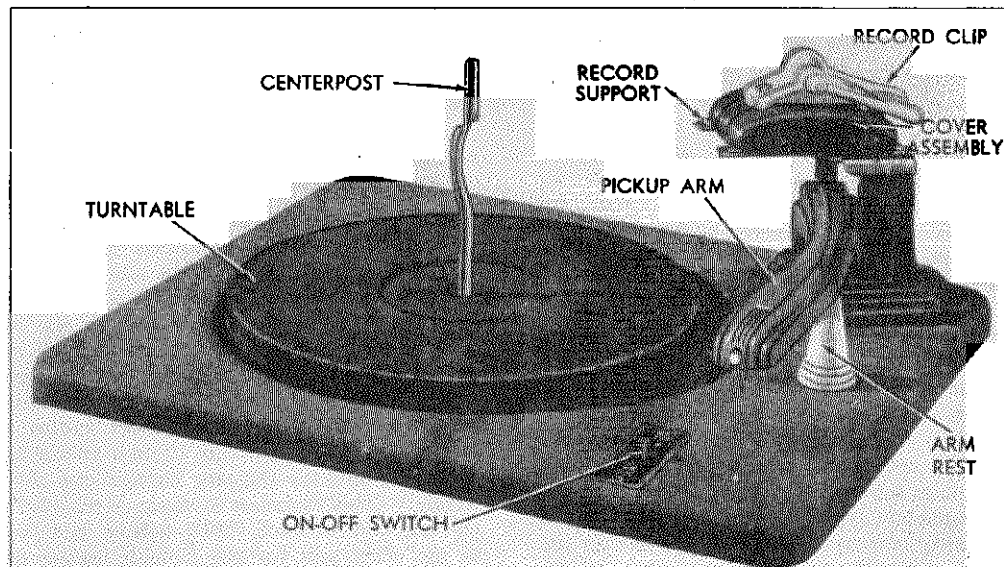

FIGURE 1. RECORD PLAYER, TOP VIEW
The size of record for which the record changer is set to play is indicated by the number (on the top of the cover assembly) nearest the turntable. See Figure 1.
This changer is designed so that the 10-inch set-down point, the 12-inch set-down point, and the pickup or trip point are simultaneously adjusted in a single operation. It is recommended that you make the adjustment at either of the set-down points. This adjustment is made by means of the adjusting screw (32) shown in figure 1. Turning this screw counter-clockwise will cause the arm to set down closer to the centerpost; turning it clockwise will cause the arm to set down further away from the centerpost. One complete turn on the screw will move the arm about $\frac{1}{4}$ inch.